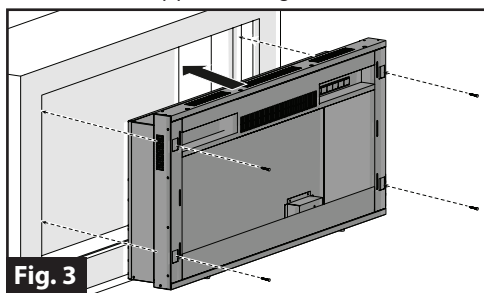

Fig. 3
5. Install the fireplace into the cut out area and secure with 4 mounting screws supplied. (Fig. 3)